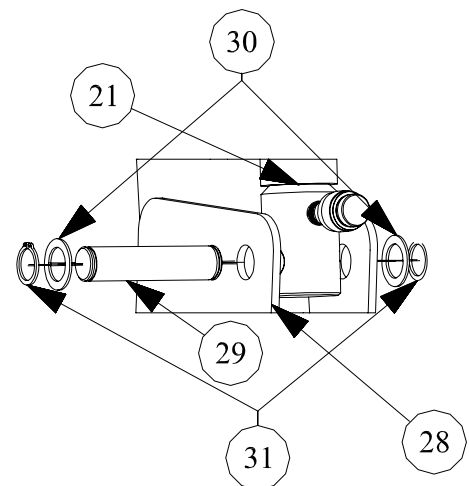

Figure 11
- Align the hole on the quick coupler end of the cylinder [#21] with the holes of the cylinder mounting plates [#28], lifting the boom if necessary and making sure that the hydraulic hose quick coupler fitting is pointing away from the frame of the crane as shown in Figure 11. Insert the 1" lower cylinder retaining pin [#29] into the aligned holes and adjust so that an approximately equal length protrudes from each of the mounting plates. Place a 1" washer [#30] onto each side of the retaining pin and snap a 1" retaining ring [#31] into each of the grooves in the retaining pin.